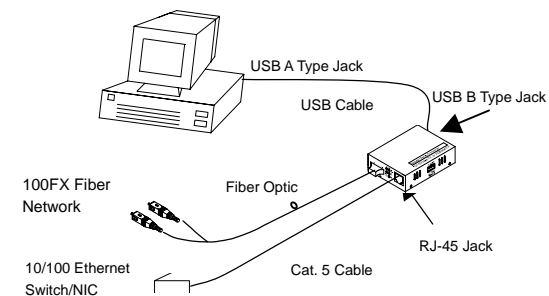

Fig.1 : ME51 with USB power source (Type B-to-Type A Plug) and FX/TP connection
2. Install the USB cable. Plug the type A connector in the PC's USB port and the type B connector in the ME51's USB port (see Fig. 1).